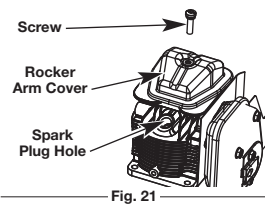

Fig. 21
- Clean dirt from around the rocker arm cover. Remove the screw holding the rocker arm cover with a large flat blade screwdriver or Torx T-25 bit (Fig. 21). Remove the rocker arm cover and gasket.
- The piston is at the top of its travel. This should be done by looking into the spark plug hole. (Fig. 21)